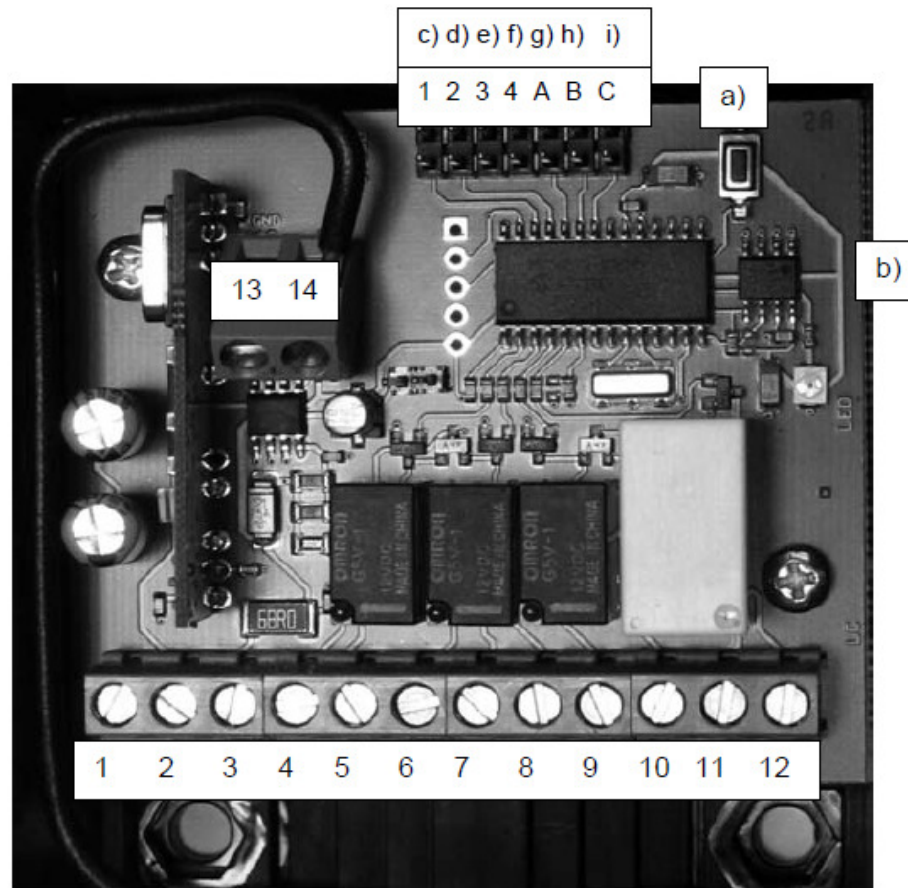

Figure 5-5
The external 4-channels receiver is mounted in a ABS plastic housing for an optimal protection against atmospheric agents. It can work together with the 2-channels receiver present on the door, to offer the maximum possible uses for remote control. In order to better understand the system of self-learning, through which the receiver recognizes only the code of its own transmitters, it is useful to refer to figure 5-5, in which can be identified:
- Insert the bridge on jumper “1” of the 4-channels receiver (see figure 5-5).